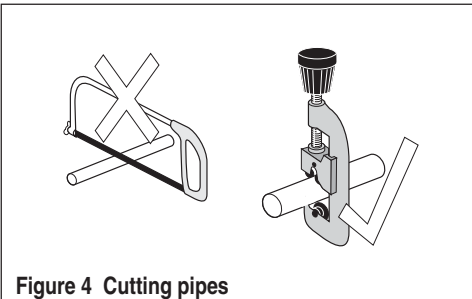

Figure 4 Cutting pipes
3.12 Cut all necessary pipe work to length with a pipe cutter and not a hacksaw, to minimise swarf - see Fig. 4.